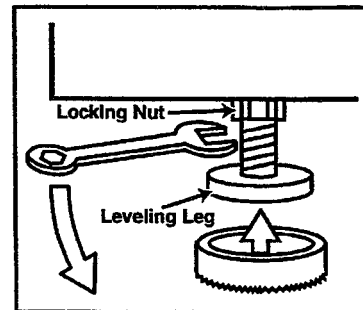

Figure 1-3
2. Tip washer slightly forward. Loosen rear leveling leg lock nuts. Tip washer back slightly to loosen front leveling leg lock nuts (*Figure 1-3*).
5. Install the rubber feet, found in the installation package, on all 4 legs (Figure 1-3).